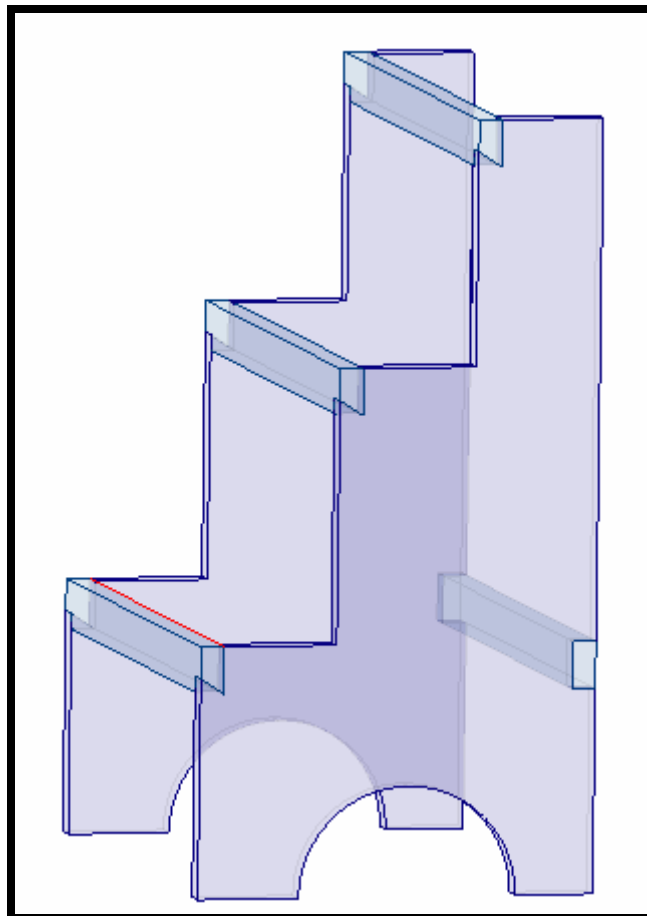

Figure 23. Assembly with all cross pieces installed.
47. Figure 23 shows the assembly with all cross pieces installed.